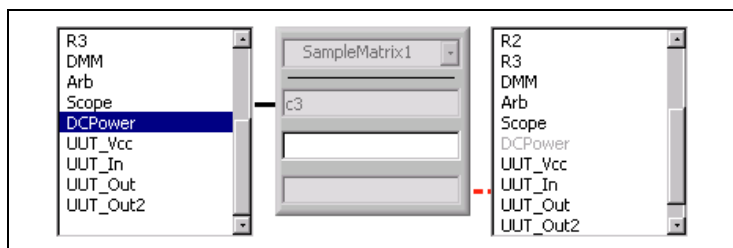

Figure 4. Incomplete Route
- a. Select the first endpoint of the route in the left column. Notice the dashed line between the device window and the second endpoint in Figure 4. The dashed line indicates that path is broken or incomplete.